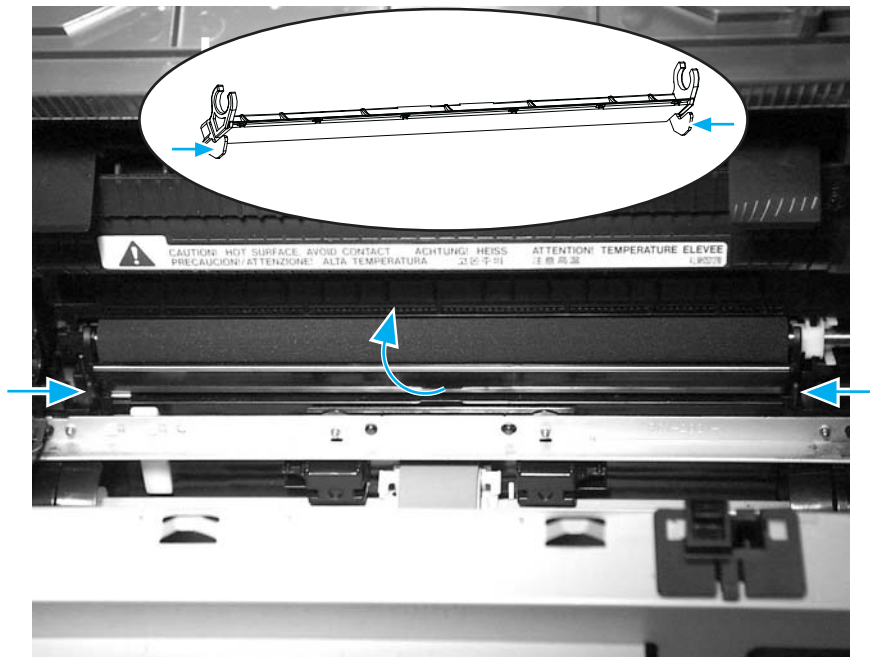

Figure 5-17. Removing the transfer roller (1 of 3)
2. Release the two tabs on the paper guide and rotate it up (figure 5-17).